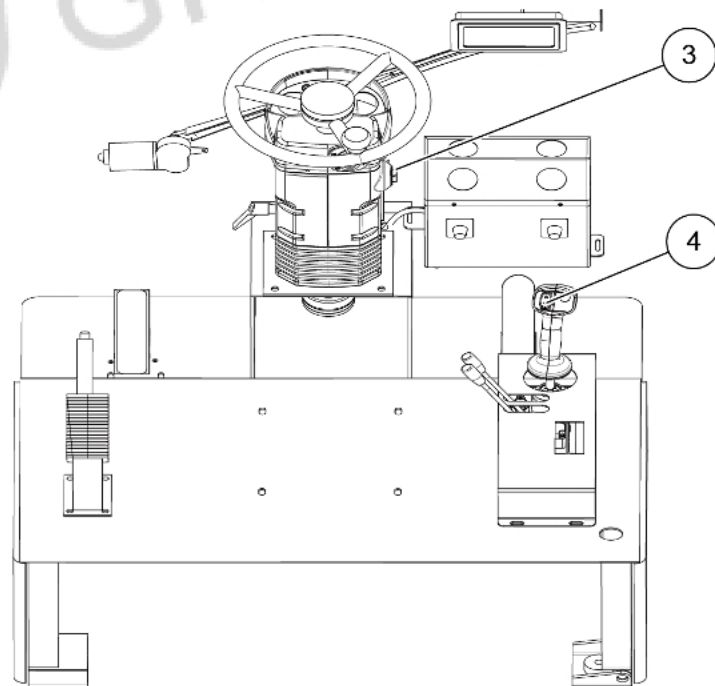

Figure 5-29 Operation platform
Step 4: Insert the key into the starting switch(3), the starting switch is in "OFF" state(5), as shown in Figure 5-29 and 5-30;
Step 5: Check and make sure that the travel control switch (4) is in the middle position, as shown in Figure 5-29;
Step 6: Turn the key to "ON" state(6) and hold. At this time, the whole loader circuit is connected;